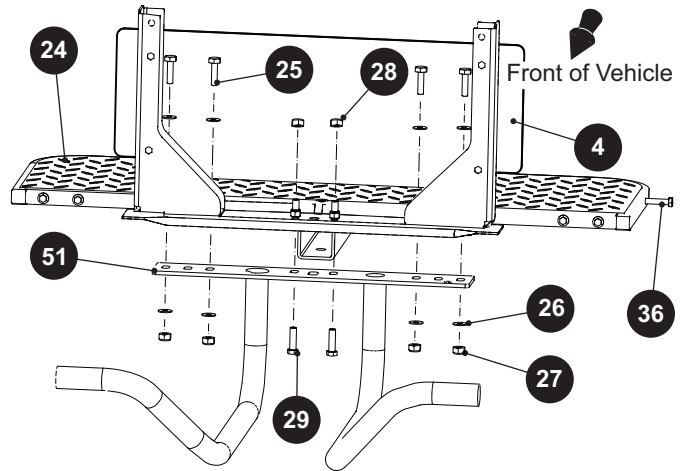

Fig. 7 Foot Rest
1. Remove the rear closeout panel (4) (See Rear Closeout Panel Replacement on page 30)
2. Remove the bolts (36) and lock nuts that secure the footrest (24) to the armrest (Ref. Fig. 7).
3. Remove the center lock nuts (28) and bolts (29).
4. Remove the bolts (25), flat washers (26), and lock nuts (27) to remove the footrest (24) from the vehicle (Ref. Fig. 7).